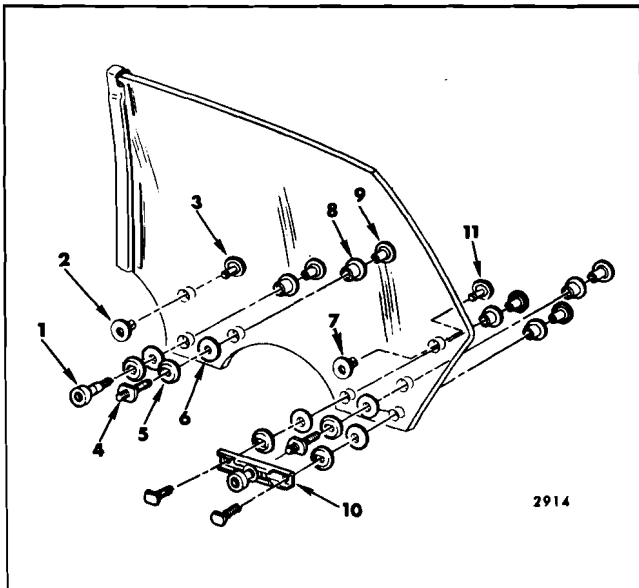
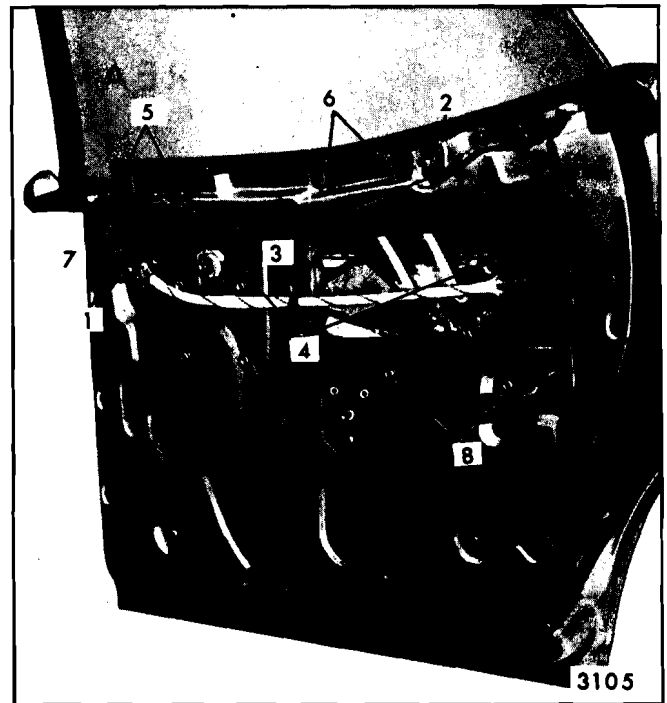

Fig. 6-118—Rear Door Window Assembly - "A-39" Styles
Fig. 6-119—Rear Door Window Removal and Adjustments - "A-39" Styles
Figure 6-118 is an exploded view of the window assembly and identifies the various components and their assembly sequence.
2. Remove window front up-stop from guide (“1”, Figure 6-119) and rear up-stop from door inner panel (“2”, Figure 6-119).
3. Loosen front and rear window stabilizer strip assembly bolts (“3”, Figure 6-119) and remove stabilizer strips.
4. With window in full-up position, remove lower sash channel cam to glass attaching stud nuts (“4”, Figure 6-119).
1. In-and-out adjustment of the glass is controlled by the in-and-out adjustment available at the top of the front and rear guides (“5” and “6”, Figure 6-119) and the in-and-out position of the glass stabilizer strip assemblies (“3”, Figure 6-119).
2. Fore-and-aft adjustment of the window assembly is controlled by the position of the front guide. The upper attaching locations in the front guide upper support (“7”, Figure 6-119) are slotted to permit fore-and-aft adjustment of the guide. Because of the free floating roller in the window rear sash channel cam (Figure 6-118) the rear guide does not have to be adjusted during fore-or-aft window alignment.
3. Ease of window operation and window stability depend to a great extent on the adjustment of the window stabilizer strip assemblies at the beltline ("3", Figure 6-119).
4. A window that is rotated (cocked) in the window opening may be the result of an improperly adjusted inner panel cam ("8", Figure 6-119) or poorly adjusted up-travel stops ("1" or "2", Figure 6-119).
5. The up-travel of the window is determined by the adjustment of the front and rear up-stop ("1" or "2", Figure 6-119). To adjust window up-travel, loosen front and rear up-stops and